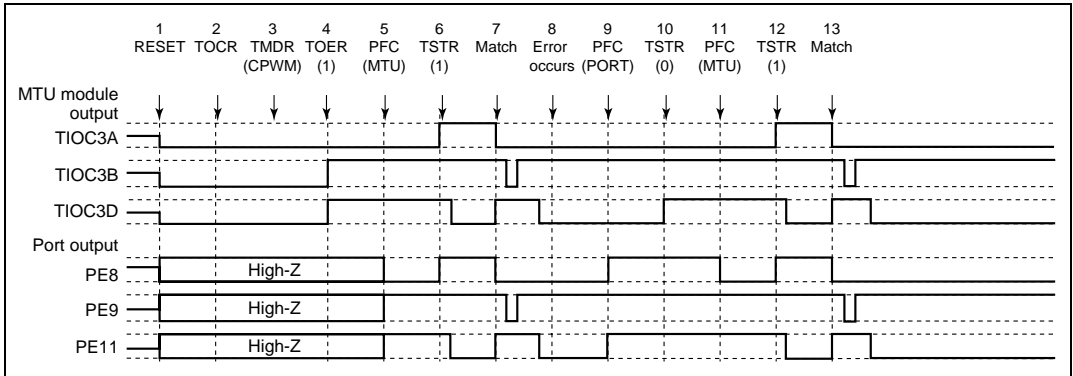

Figure 10.107 Error Occurrence in Complementary PWM Mode, Recovery in Complementary PWM Mode
(23) Operation when Error Occurs during Complementary PWM Mode Operation, and Operation is Restarted in Complementary PWM Mode: Figure 10.107 shows an explanatory diagram of the case where an error occurs in complementary PWM mode and operation is restarted in complementary PWM mode after re-setting (when operation is restarted using the cycle and duty settings at the time the counter was stopped).